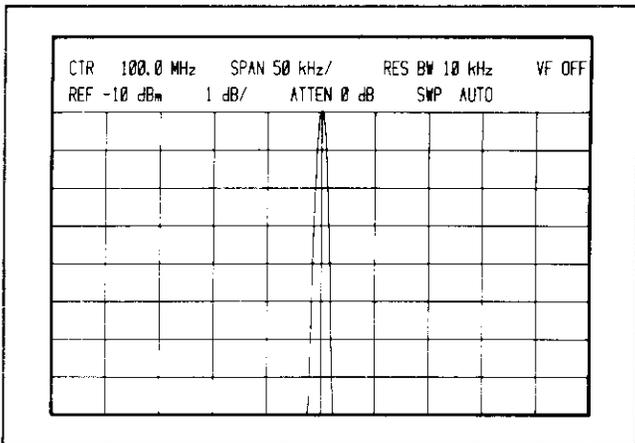

Figure 4. CAL OUTPUT Signal
4. Adjust REF LEVEL CAL to position the peak of the signal on the REFERENCE LEVEL (top graticule line) of the CRT. Once the Front Panel Adjustment Procedure is completed, the CRT display should be similar to that shown in Figure 4.